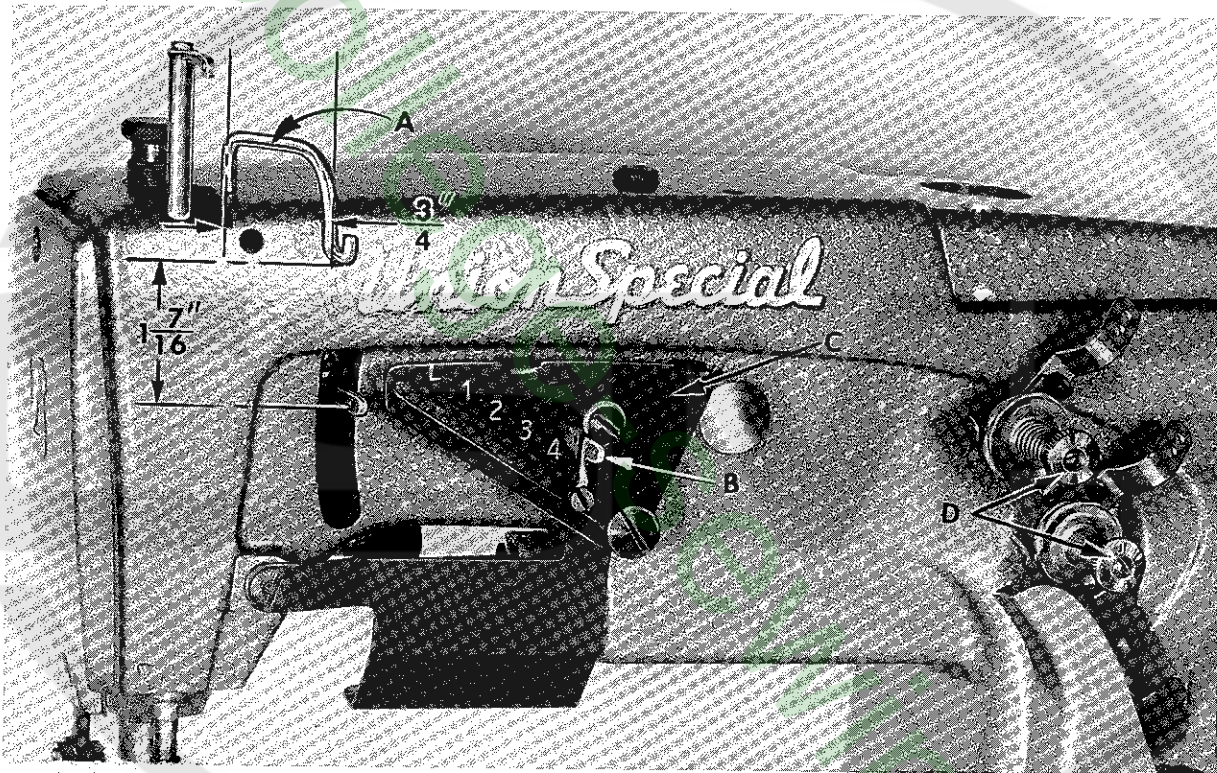

Fig. 12A
With the needle bar at the top of its stroke, set the needle thread take-up wire (A, Fig. 12A) so its lower extended surface is $1 \frac{7}{16}$ inch above the centerline of the needle lever thread eyelet hole and $\frac{3}{4}$ inch across the centerlines of its vertical surfaces (See Fig. 12A).
Thread machine and move the adjustable eyelet (B, Fig. 12A) on the indicator plate (C) to the letter "T". Apply necessary tension to both needle and looper thread at disc tension nuts (D) and start to sew. Looper thread tension should be light. Adjust tightness of needle thread tension to pull up the smallest needle loop required. This setting should produce a tight stitch. Without changing tension, move the adjustable eyelet (B) to the uppermost position "L", and sew another seam. This seam should be loose, producing long needle loops.